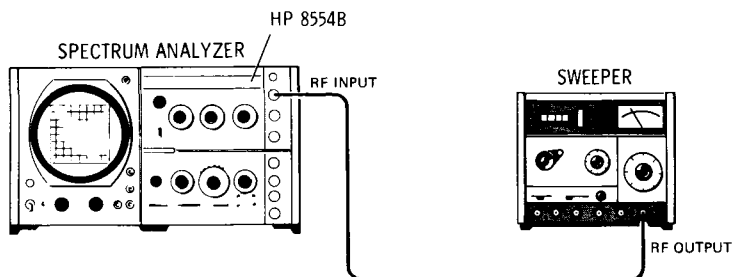

Figure 4-4. Frequency Response Test: 100 kHz to 100 MHz
6. To check the frequency response from 100 kHz to 100 MHz, connect the test shown in Figure 4-4. Make the following control settings: